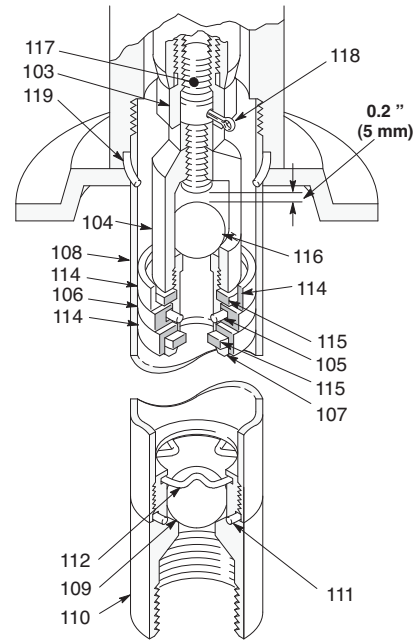

FIG. 14
Refer to FIG. 14.
3. Carefully inspect the smooth, inner surface of the cylinder (108) for scoring or irregular surfaces. Such damage causes premature packing wear and leaking, replace the part as needed.
4. Place the piston housing (104) in a vise. Unscrew the piston seat (107) and remove the packings.
5. Grease the new piston packings and stack them one at a time on the piston seat (107), making sure all parts face the way shown in FIG. 14. Install the ball (116). Apply liquid sealant to the male threads of the seat (107), and screw on the piston housing (104).
6. Remove the ball retainer (112) from the intake housing assembly by grabbing the open leg and pulling it toward the center of the housing. Inspect the ball (109) and seat, and replace as needed.
NOTE: If you removed or turned the next nut (103), check the ball travel. It should be 0.2 inches (5 mm), as shown in FIG. 14.
- To reconnect the reciprocator and pump, screw the connecting rod (117) into the displacement rod (34). Install the cotter pin (118). Make sure the o-ring (119) in the bottom of the adapter (43) is in good condition. Push the cylinder up into the adapter, and engage the threads. Screw in the pump, using a strap wrench for the final tightening. (FIG. 14)